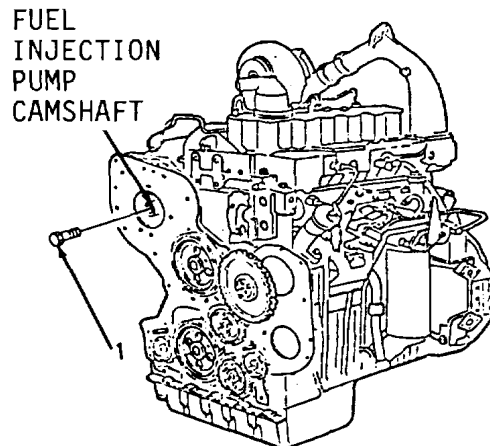

Figure 3-32.
22. Install bolt (1, Figure 3-32) on fuel injection pump camshaft.
25. With pin still in camshaft groove, remove bolt (1, Figure 3-32) from fuel injection pump camshaft.